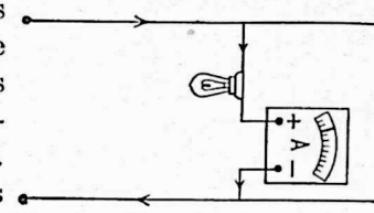

FIG. 8. The ammeter A measures the current flowing through the lamp.
insert a current meter into the circuit, so that all the current which we wish to measure flows through the meter. Since an instrument which measures an electric current must read in amperes, such a current meter is called an **ammeter** (a contraction of the term ampere-meter). Fig. 8 represents an ammeter (A) inserted in a line to measure the current flowing through the incandescent lamp (L). Note that all the current which goes through the lamp must pass through the ammeter. The ammeter then must be of very low resistance in order not to hinder the current. Such an instrument is very delicate and must be handled carefully. A fuller description showing the principles upon which it operates is to be found in Chapter VI. Sufficient practice in the use of this instrument should be gained by the student before proceeding further with the work.